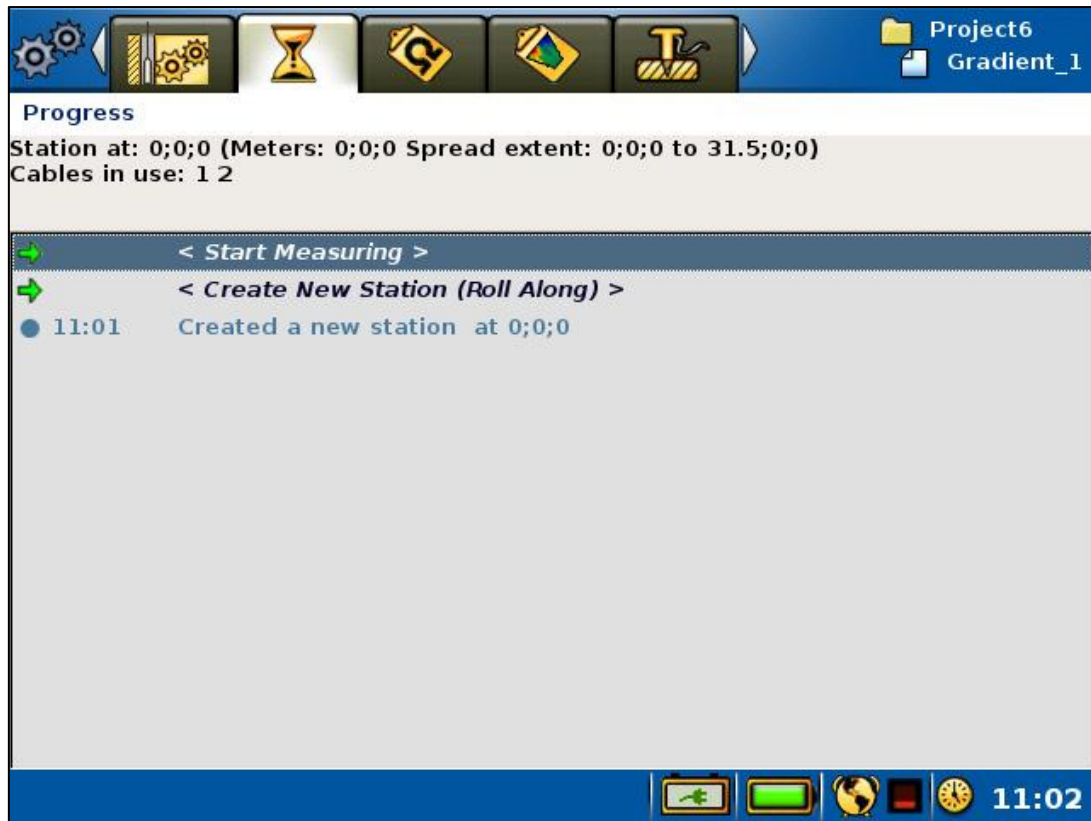

Figure 58 Start Measuring command on measuring progress Page
- Move the highlight to the <Start Measuring> row (Figure 58)